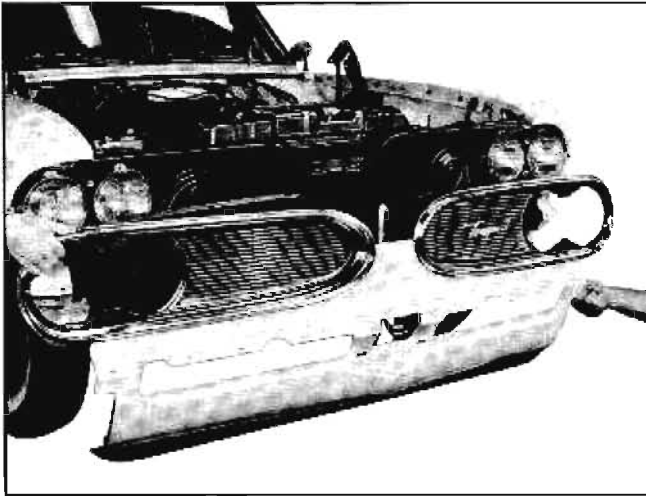

Fig. 10-11 Removing Grille and Lower Panel Assembly
8. Remove grille assembly by pulling forward (Fig. 10-11).